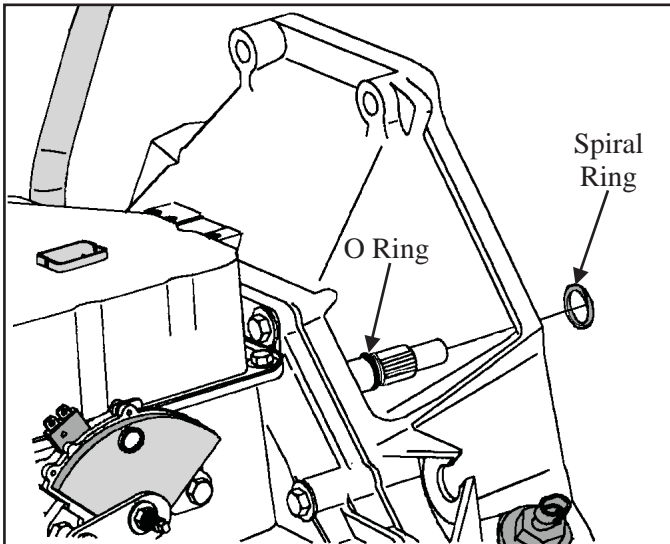

Figure 55
2. Remove the O ring from behind the retaining spiral ring. **DO NOT REMOVE THE SPIRAL RING** as damage to the ring may occur (See Figures 55 and 56).